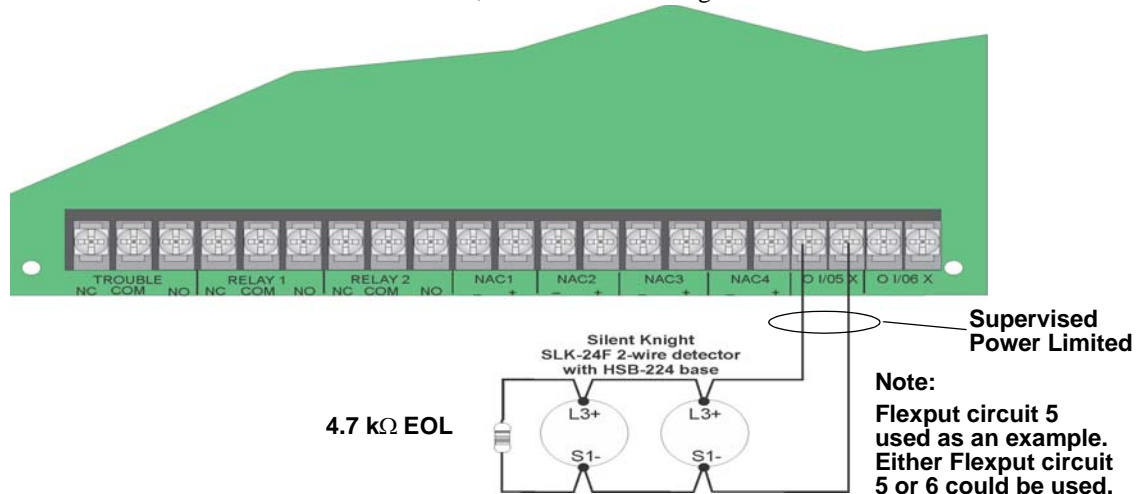
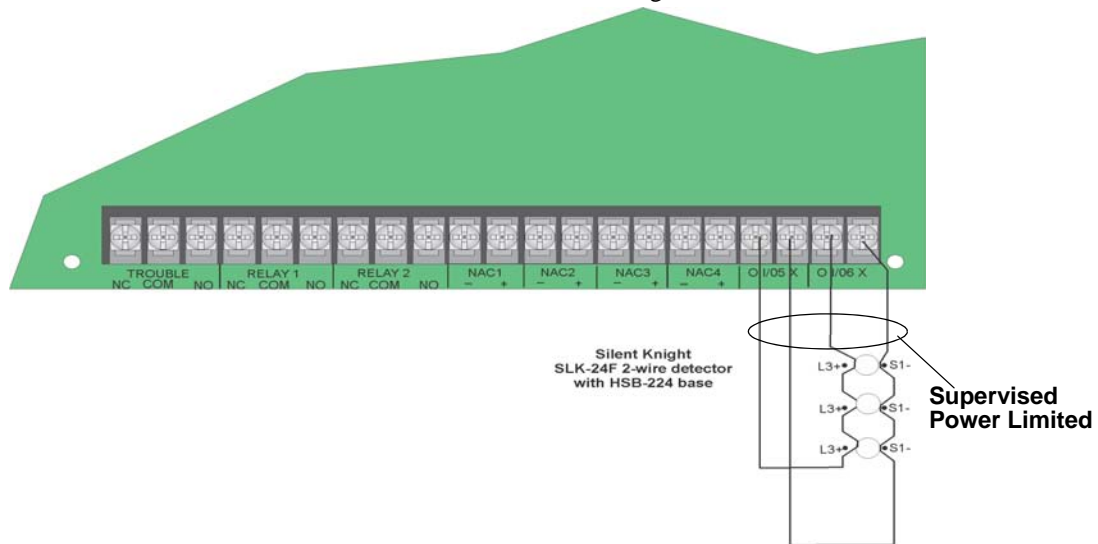

Figure 4-47 Two-Wire Class B Smoke Detector
Figure 4-48 Two-Wire Class A Smoke Detector Connections
Any compatible UL listed two-wire smoke detector can be used with the control panel (see Appendix A for list of compatible smoke detectors). Figure 4-47 and Figure 4-48 illustrate how to connect a UL listed 2-wire detector to the control panel.
To install a Class B two-wire smoke detector, wire as shown in Figure 4-47.
To install a Class A two-wire smoke detector, wire as shown in Figure 4-48.
*Note: In programming any point that uses multiple Flexput circuits, the lowest Flexput circuit number is used to refer to the circuit pair. In this example, Figure 4-48 uses both Flexput circuit 5 and 6, so in programming it would be referred to as point 5.*